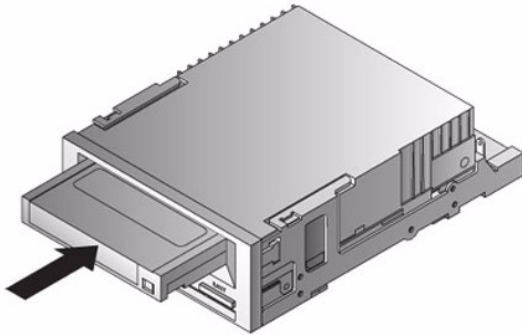

Figure 45. Inserting a Cartridge
3. Gently insert the cartridge into the drive (see Figure 45 on page 88).